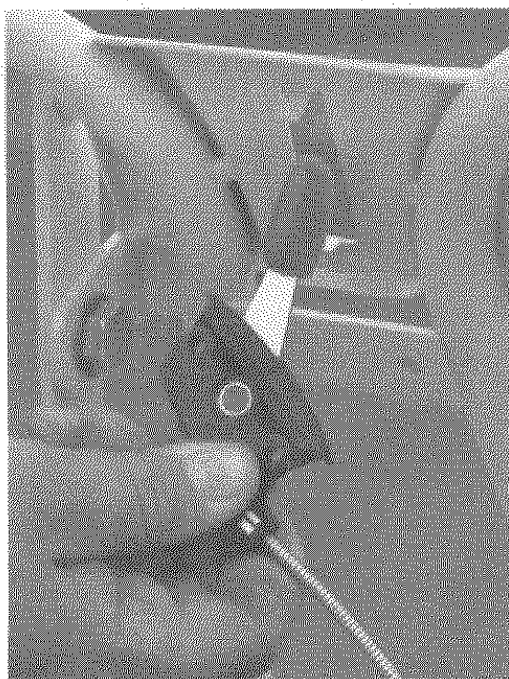

FIGURE 5: Twist the throttle control lever so the knob can pass through the cutout in the panel.
- B. Hold the control lever at the end of the throttle cable and twist it slightly so the knob can pass through the cutout in the upper handle control panel (see Figure 5).